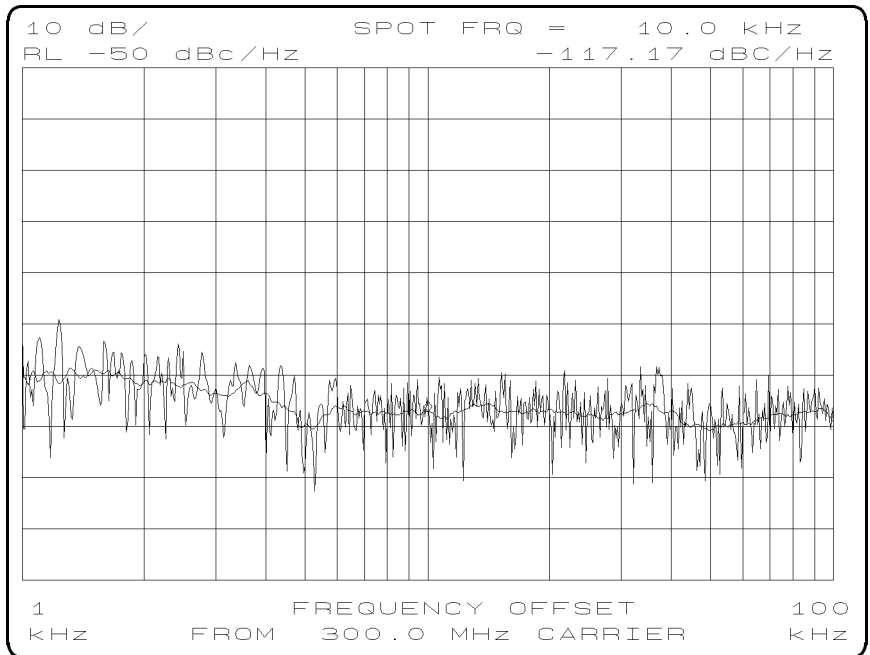

Figure 1-3. Log Plot Measurement
7. Press **MAIN MENU** and **MEASURE LOG PLOT** to start the phase noise measurement. See Figure 1-3.